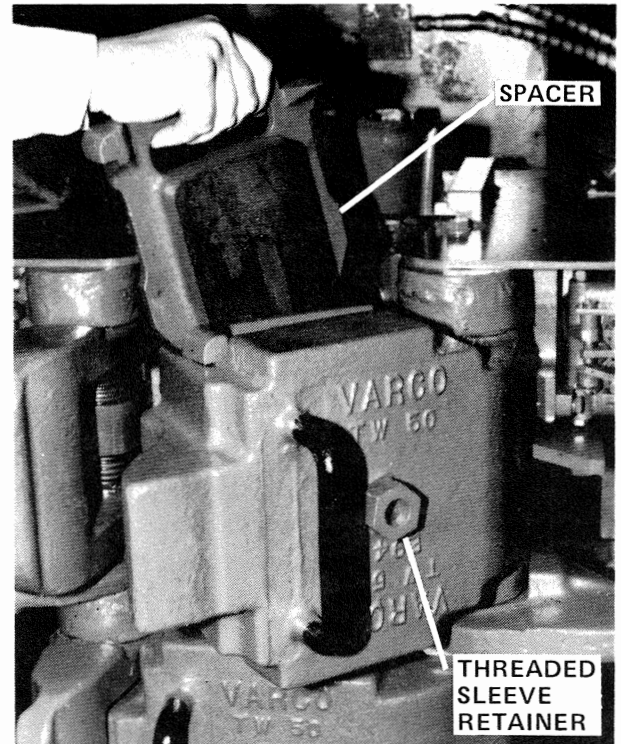

Figure 3-2. Changing Jaw Size
The TW-60's jaws must match the tool joint diameter. For TW-60's serial numbered up to, and including 143 use the add on spacers per Table 3-1 and Figure 3-2. For serial number 144 and on, use interchangeable jaws and spacers per Table 3-2. A retrofit kit can be ordered in early 1979 to change TW-60's serial numbered prior to 144 to the later configuration.
- Loosen jaw retainer sleeve (Figure 3-2) on both gates and add or remove spacers as indicated.